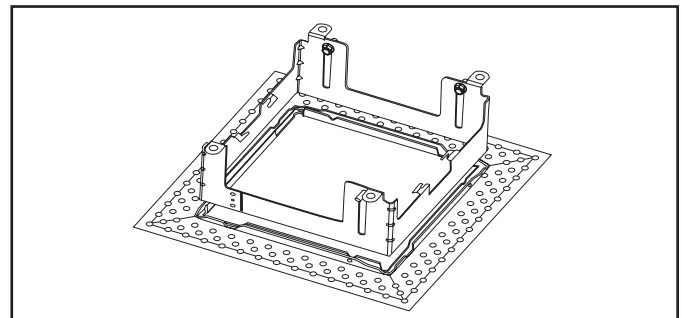
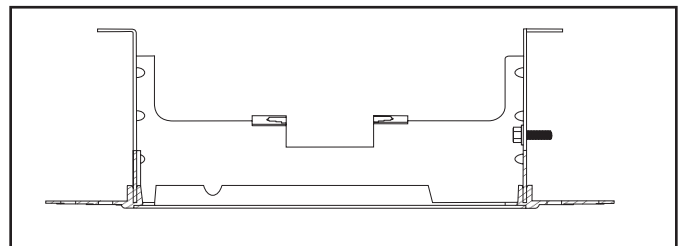

Figure 2.
Figure 3.
2. Carefully locate the collar channel of the plaster lathing ring with the fixture collar (Figure 2). While holding top of collar, carefully press plaster lathing ring onto fixture collar, on all four sides, until bottom of channel is flush with collar (Figure 3).
4. Apply uniform pressure across the length and width of the perforated flange forming a tight bond with the ceiling. Securely tighten three (3) hex head cap screws to prevent vertical movement of collar. Allow sufficient cure time, as recommended by the adhesive manufacturer, before application of joint compound.